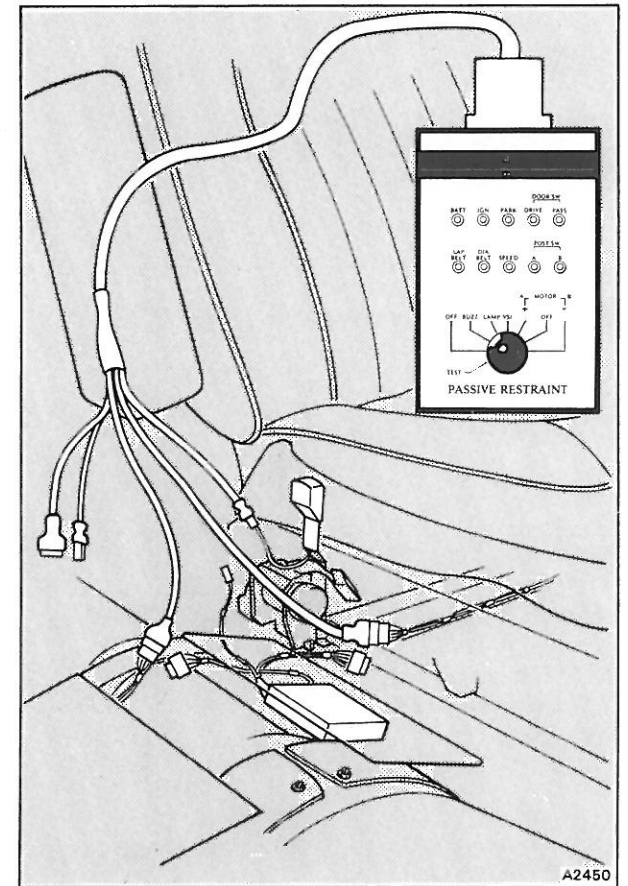

Fig. 6-2 Connecting the passive restraint test box
2. Disconnect the electronic control unit plugs and sockets. Referring to figure 6-2 connect the passive restraint test box RH 12024 as follows.